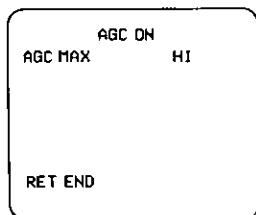

Fig. 31
- When the ON mode is selected and the Setup Mode Button (SET UP) is pressed, the "HI" is displayed as shown in Fig. 31.